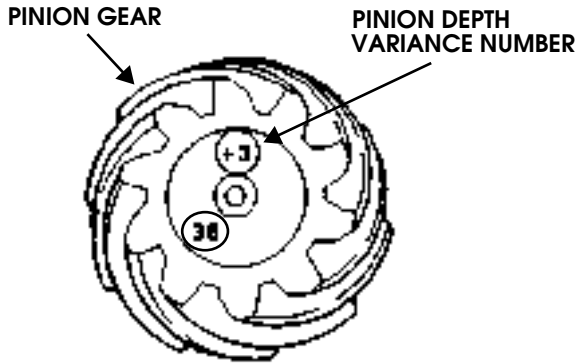

Figure 9-88: Pinion Depth Variance Number Location
20. Note pinion depth variance marked on pinion gear. If number is preceded by a plus (+) sign, add that amount in thousands to standard setting of 2.547 in. (6.46 cm). If number is preceded by minus (-) sign, subtract that amount in thousands from standard setting of 2.547 in. (6.46 cm). The result of this addition or subtraction is desired pinion depth. Record for reference (Figure 9-88).